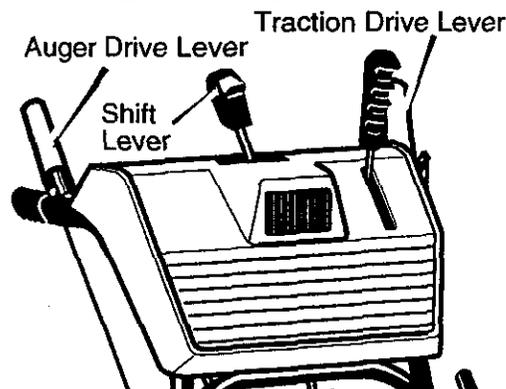

Figure 16
1. To stop throwing snow, release the **auger drive lever**. See Figure 16.
1. To shift, release the traction drive lever (**left hand**) and move the speed shift lever to the speed you desire. See Figure 16. Ground speed is determined by snow conditions. Select the speed you desire by moving the speed shifter lever left into the appropriate notches on the shift lever plate:
1. Push down the auger driver lever (**right hand**). See Figure 16.